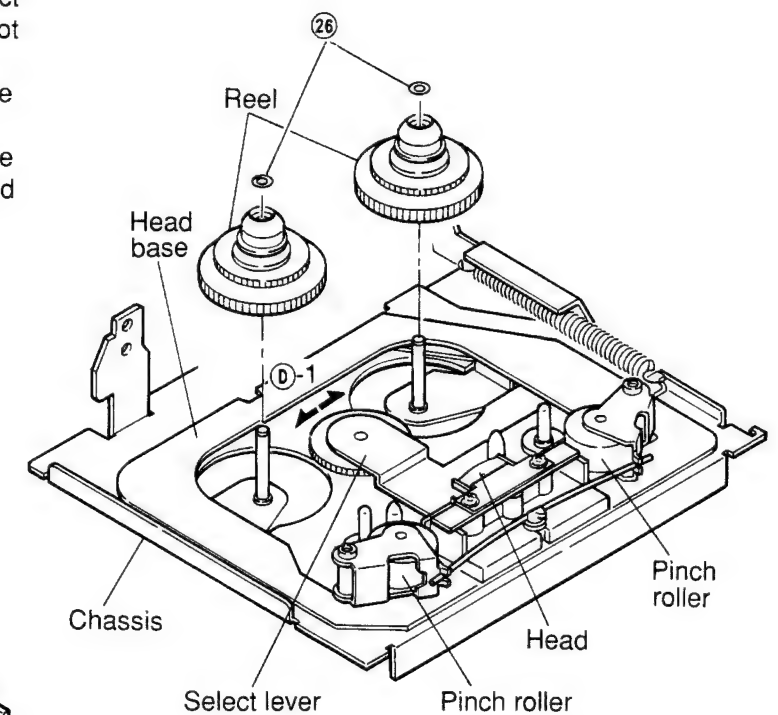

Figure 19
- (1) Remove M1.7 two lock washers (26) (Refer to figure 19).
- (2) Move the select lever in the direction marked (D-1) in the Figure and remove the reel by gripping the reel gear as shown in Figure 19.
- (3) After replacement, mount the new reels following the removal steps in the reverse order.
- (4) After mounting, check the tape speed and the wow and flutter with test tape MTT-111.